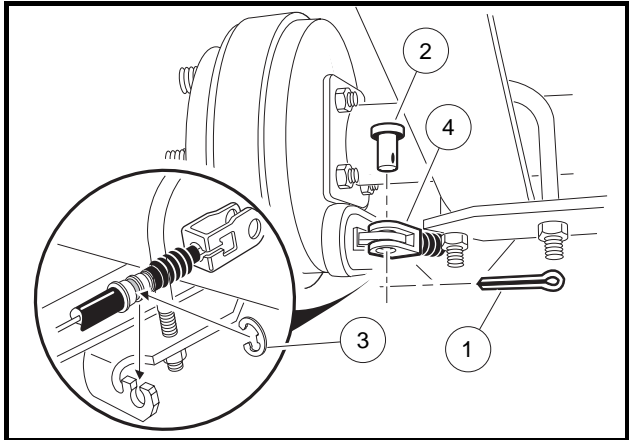

Figure 17b-8 Disconnect Brakes
5. Disconnect the shock absorbers from their lower mounts (**Figure 17b-9, Page 17b-6**).